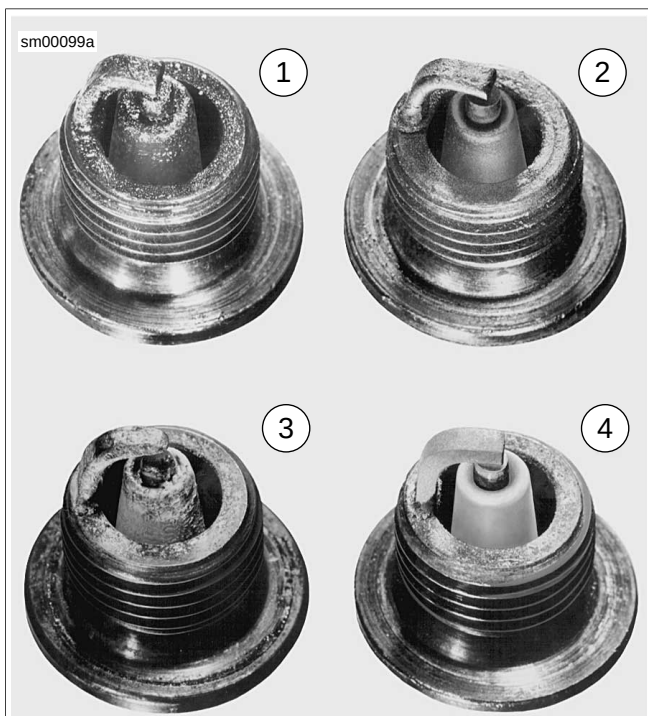

Figure 1-38. Spark Plug Deposits
See Figure 1-38. Compare plug deposits to Table 1-14.
* See Figure 1-38.